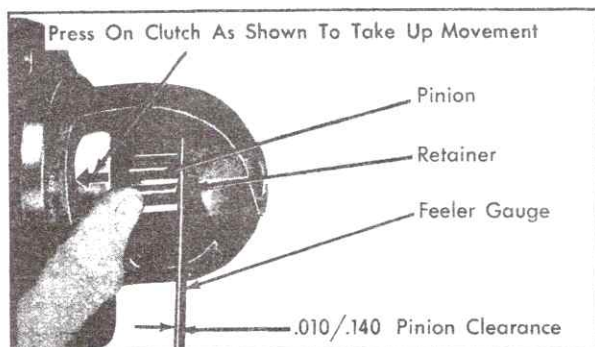

Fig. 6-13 Checking Pinion Clearance
### a. Preferred Method (Fig. 6-13)
3. After energizing solenoid, press on clutch, Fig. 6-13, to take up movement.
4. Push pinion away from stop retainer as far as possible and use feeler gage to check clearance between starter motor pinion and pinion stop retainer, Fig. 6-13. Clearance should be .010 inch to .140 inch when pinion is in cranking position.
### b. Alternate Method (Fig. 6-13)
5. After energizing solenoid, press on clutch, Fig. 6-13, to take up movement.
6. Push pinion away from stop retainer as far as possible and use feeler gage to check clearance between starter motor pinion and pinion stop retainer, Fig. 6-13. Clearance should be .010 inch to .140 inch when pinion is in cranking position.